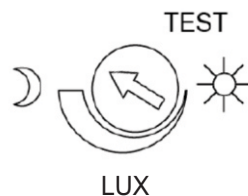

Figure 8
(3) LUX ADJUSTMENT
- Provisionally turn the LUX control knob to the edge clockwise at the moon (dusk) position (Figure 8). In this provisional setting mode, the motion sensor remains inactive during daylight. At dusk when the light level is at the LUX required, simply set the LUX control knob to the position that the motion sensor will become active as daylight declines.